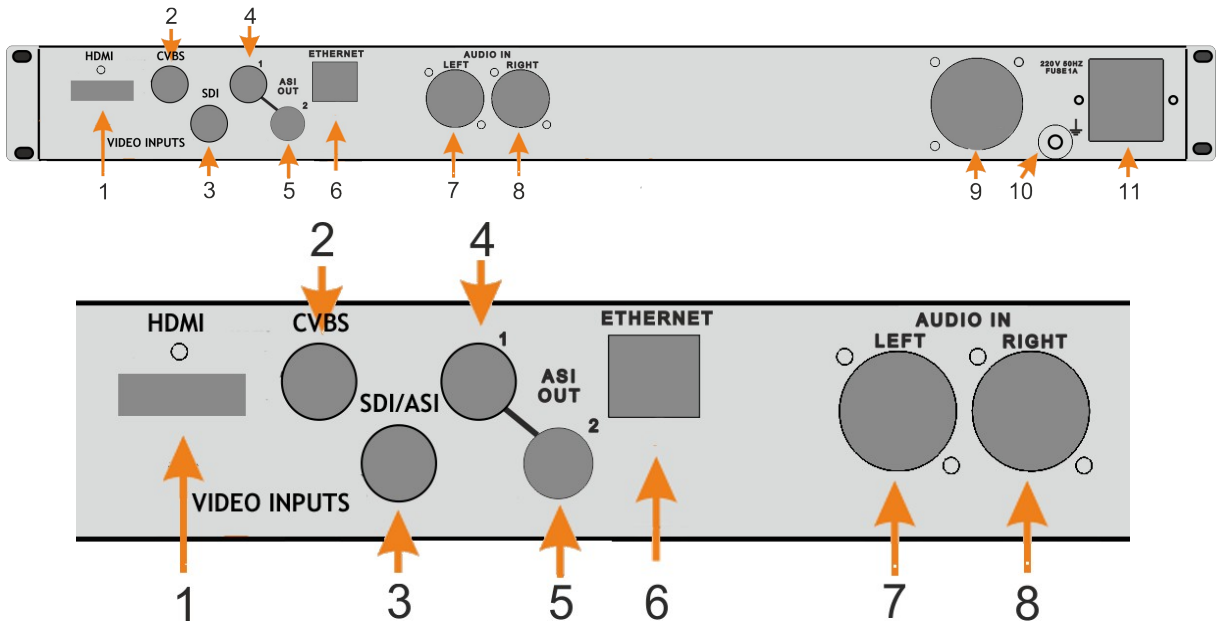

Fig.1.2
- Connect Power Cord (14. Fig.1.2).
- Connect ASI OUT to the device with ASI Input (5 or 6, Fig.1.2).
- Connect Ethernet port to PC for setting of the Encoder/Transcoder modes and parameters.(RJ45 (7), Fig.1.2).